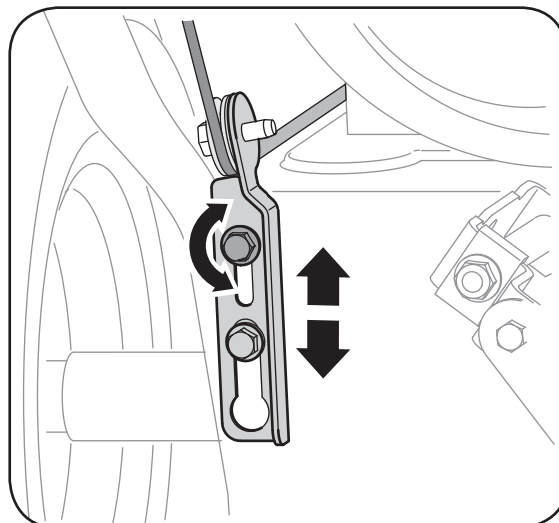

Figure 13
- Allow the auger to remain engaged for approximately ten (10) seconds before releasing the auger control. Repeat this several times.
- Position the bracket upward to provide more slack (or downward to increase cable tension). See Figure 13.